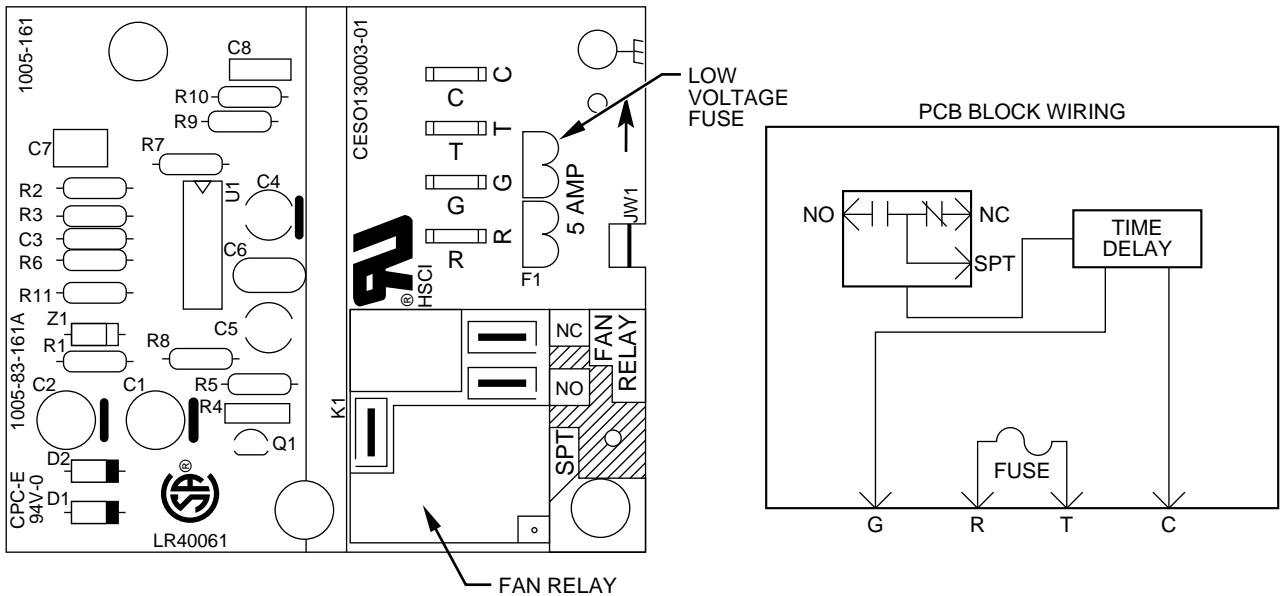

Fig. 3A—Fan Coil Printed-Circuit Board
Layout of the actual PCB is depicted in Fig. 3A.
2. Check output voltage of transformer secondary side R (red) and C (brown). Be sure transformer output is between 18 and 30 vac. If transformer output is incorrect and transformer is receiving correct input voltage (208v or 230v), then transformer needs to be replaced with recommended transformer. If no problem exists with transformer secondary, proceed to items 3 and 4.
3. Check low-voltage fuse shown in Fig. 3A. If fuse is blown, replace it with an identical 5-amp fuse. The transformer cannot supply power to board with fuse blown or loose. If fuse blows when unit has power applied to it, the system most likely has 1 of the following problems: